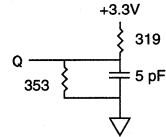

Fig. 2 OUTPUT LOAD EQUIVALENT
- t_{HZCE} , t_{HZOE} and t_{HZWE} are specified with $C_L = 5pF$ as in Fig. 2. Transition is measured $\pm 500mV$ from steady state voltage.